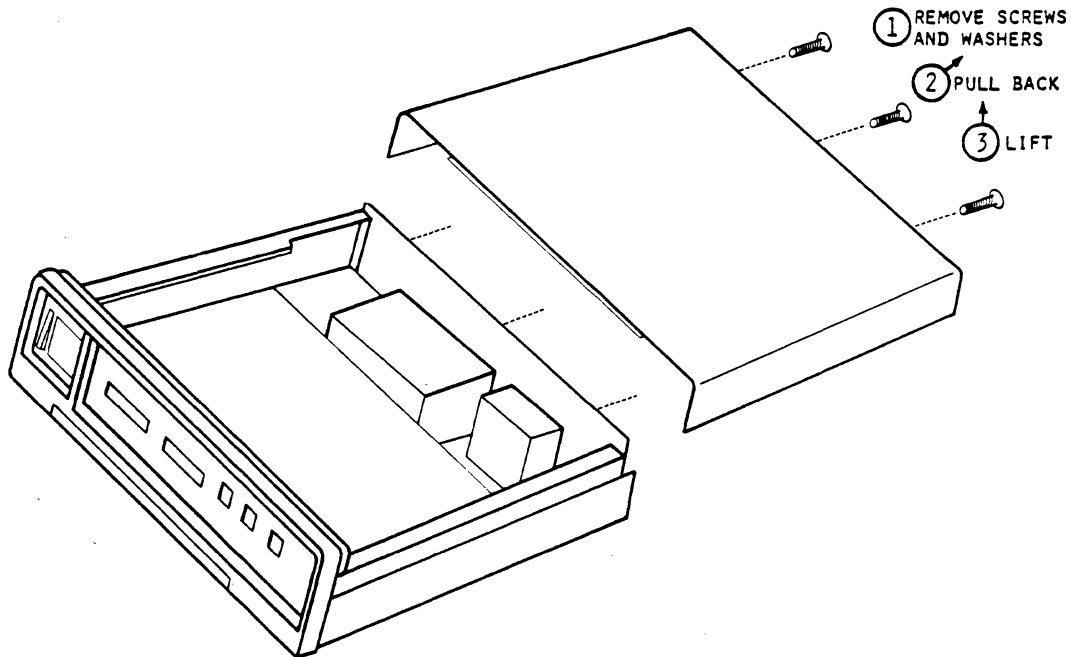

Figure 3-9. Top Cover Removal
3. Remove the three screws and washers that secure the top cover of the unit, at the left, center and right of the rear panel, as shown in Figure 3-9. Store the screws and washers in a safe place.
4. Grasping the rear of the top cover, lift it upwards and move to the rear to release the cover from the top panel (Figure 3-9).